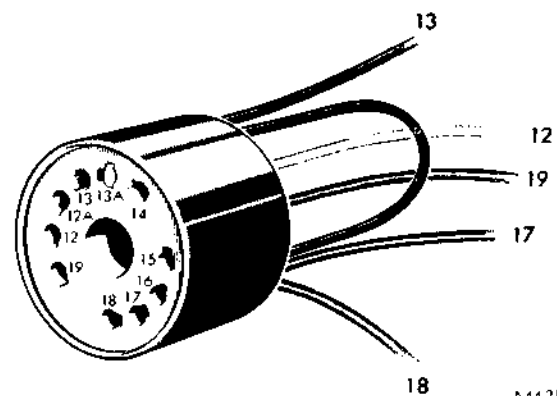

FIG. 3. SOCKET CONNECTIONS—ELECTRONIC SPEEDOMETER
3. Check wiring in socket, Fig. 3.